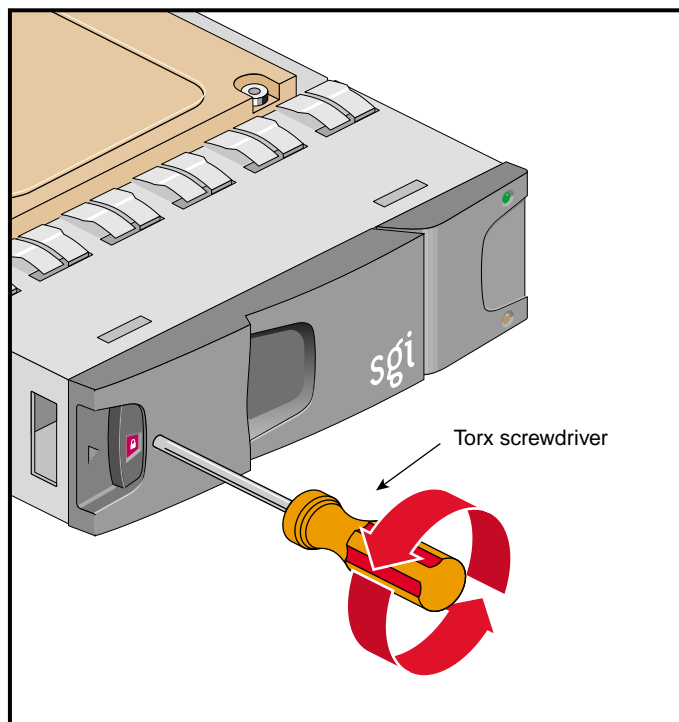

Figure 2-5 Activating an Anti-tamper Lock
1. Carefully insert the lock key into the lock in the handle. See Figure 2-5 for the location of the anti-tamper lock.